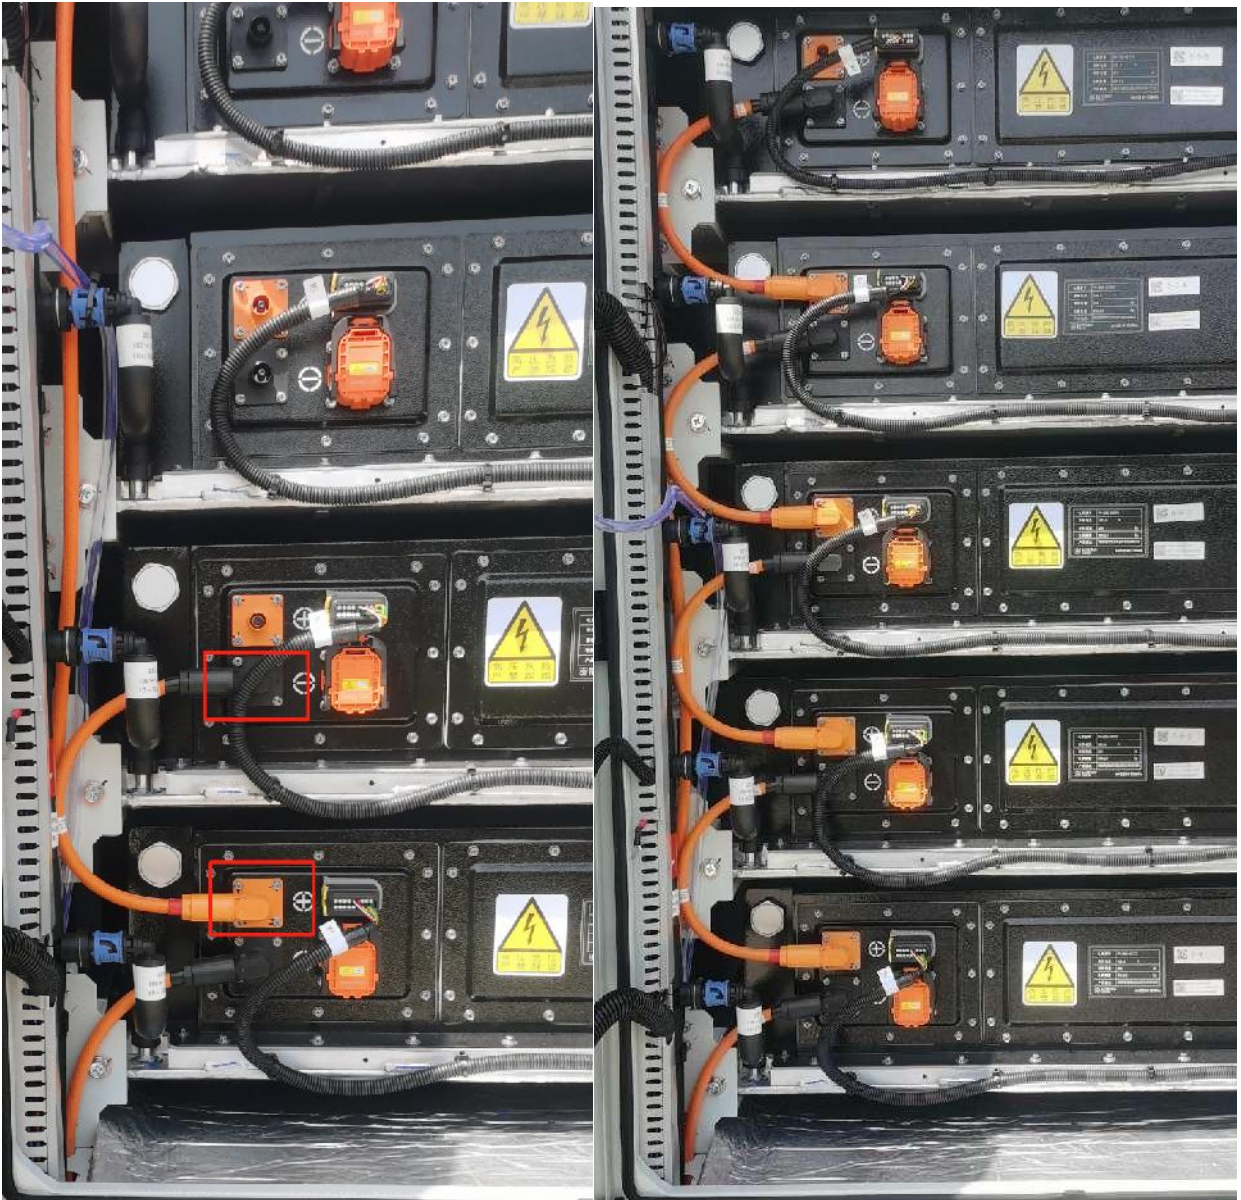

Figure 5.8 Diagram of Power Line Connections
Step 2: Connect the battery modules in series, from the negative terminal of BAT1-1 to the positive terminal of BAT1-2, and then connect the BAT1-BAT5's in sequence, as shown in Figure 5.8.